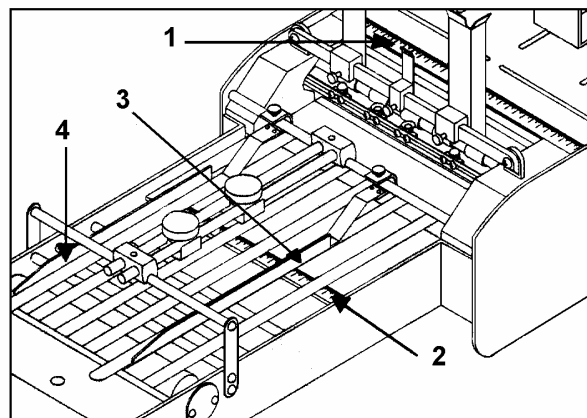

Figure 8.
11. Using the scale on the feeder floor and the scale on the conveyor, [#1, Fig. 8], and the scale on the conveyor, [#2, Fig. 8], roughly adjust the stop guide, [#4, Fig. 8] and the push guide, [#3, Fig. 8] so that the envelope coming down will clear them.